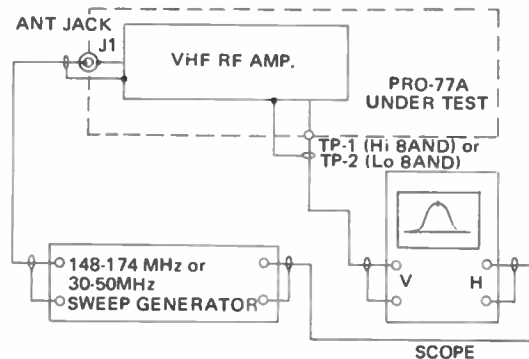

FIGURE 5. VHF RF ALIGNMENT
Step 1: Connect the instruments as shown in Figure 5.